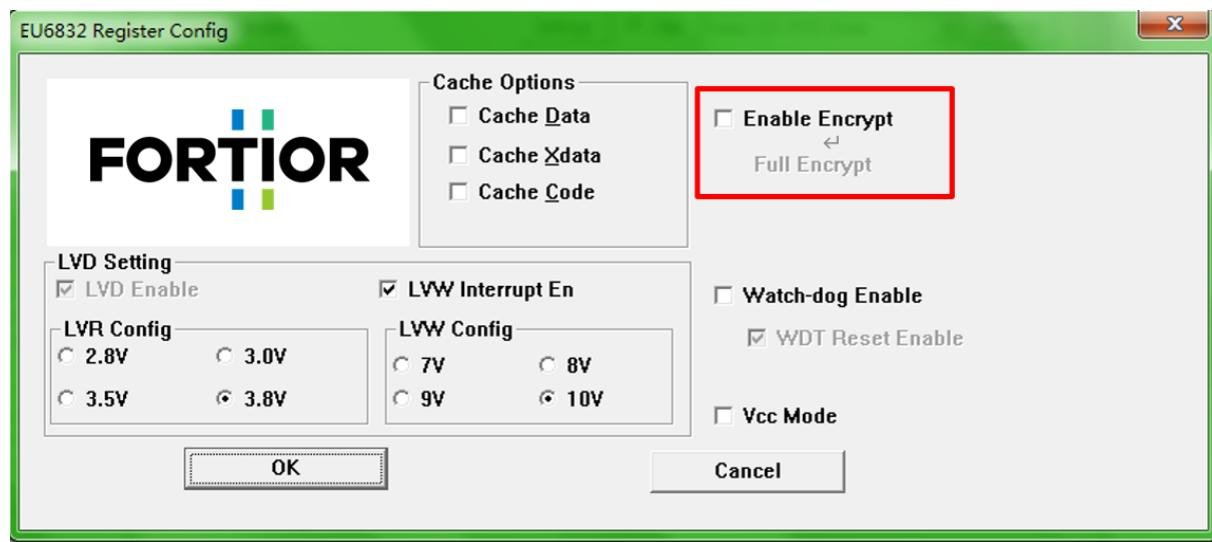

Figure 34-2 Full Code Protection Mode
2. Select the options as shown in Figure 34-2, and click OK. Then compile the project and download it.
Note: The chip supports full-code protection mode, as shown in Figure 34-2. In this mode, all codes in FLASH are protected.